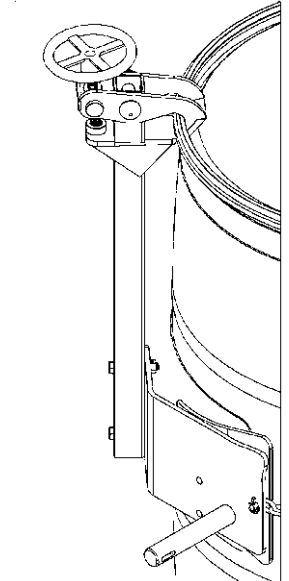

Figure 2.2
- The **Top Rim Clamp** (Part # 4560-P) grips the upper rim of your drum to prevent it from slipping through the drum holder (see figure 2.2). To handle